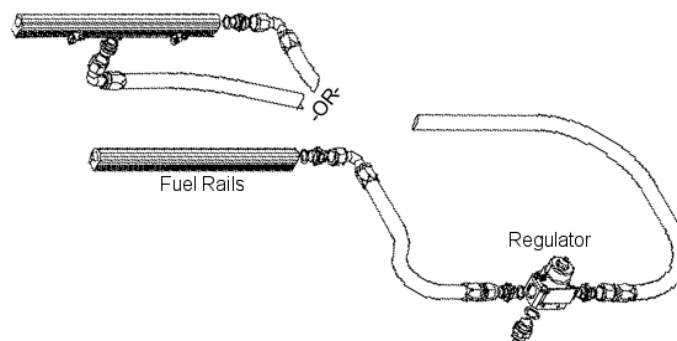

**FIGURE 3-1**
- 3-3. Install one of the supplied AN-06 o-rings onto the ORB (cut-off) side of all three of the ORB-06 to AN-06 male flare fittings, if not already installed. Install one of these fittings into each of the ORB-06 inlet (side) ports located on either side of the supplied fuel pressure regulator. Install the remaining ORB-06 to AN-06 male flare fitting into the bottom, return port of the supplied fuel pressure regulator. See **FIGURE 3-1**